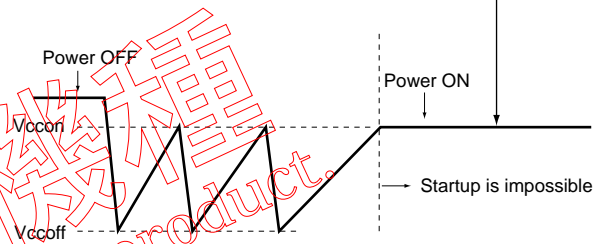

Fig. 22 Image of VCC waveform when re-startup is impossible
After that, re-startup by power-on can not be guaranteed even when equation (8) is satisfied. The image of that the startup is impossible is shown in Fig. 22. It is necessary to startup IC that supply current Icc (startup) to VCC is over 4mA in the condition of Tj < 100 °C during Vcc is kept at VCCON(=16V, balance state at VCCON after the repeated operation.